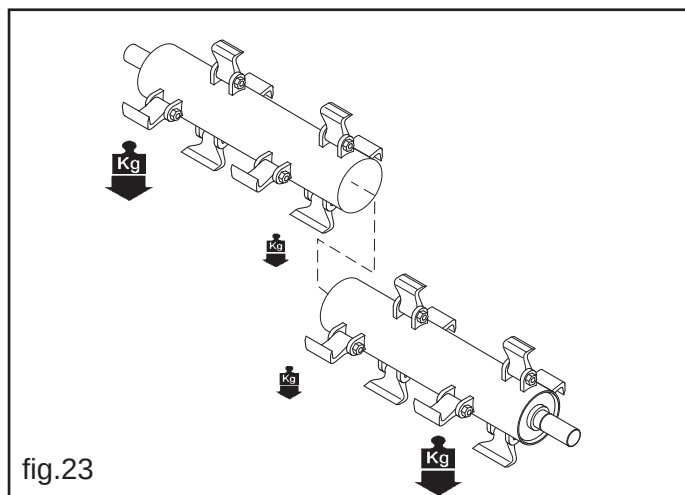

fig.23
- **Install the heaviest pairs at the two ends of the rotor and the lighter pairs in the middle (fig.23).**